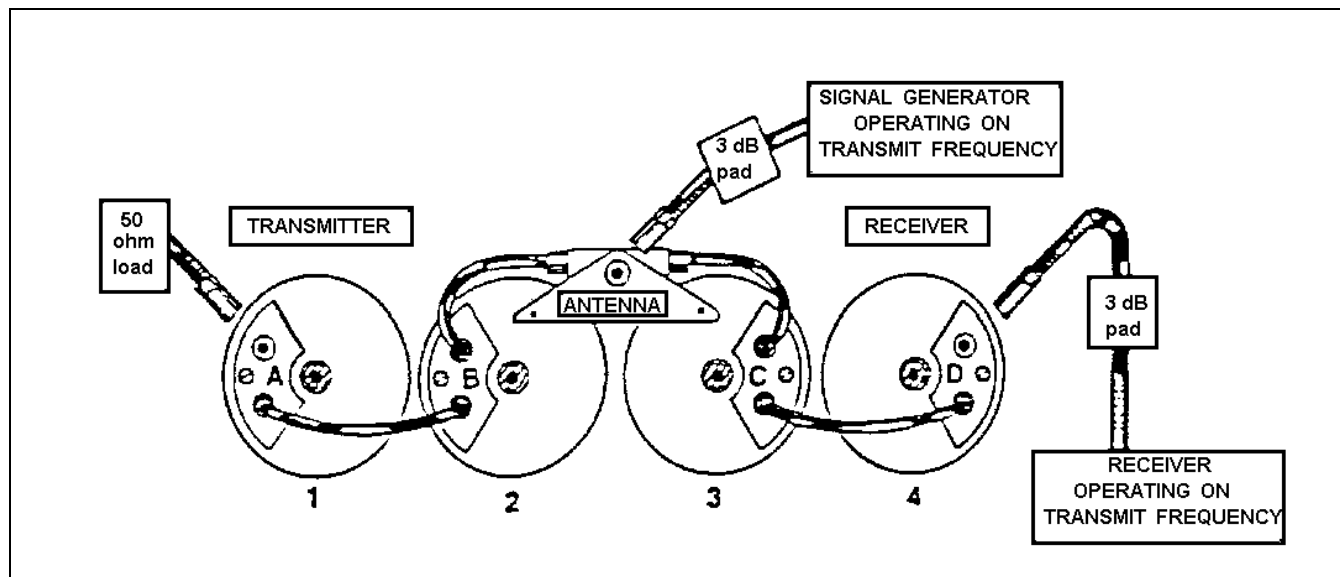

Figure 6
3. Connect the equipment to the duplexer as shown in Figure 6.